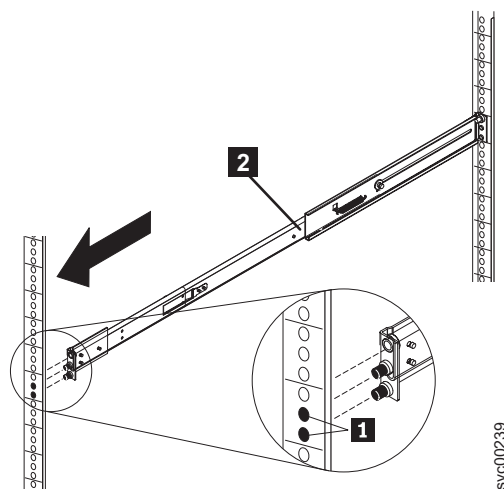

Figure 21. Extending the right slide rail
4. Extend the right slide rail **2** and insert it into the front rack mounting flange, as shown in Figure 21, with the rail pins **1** protruding through the flange. Insert the left slide rail in the same way.